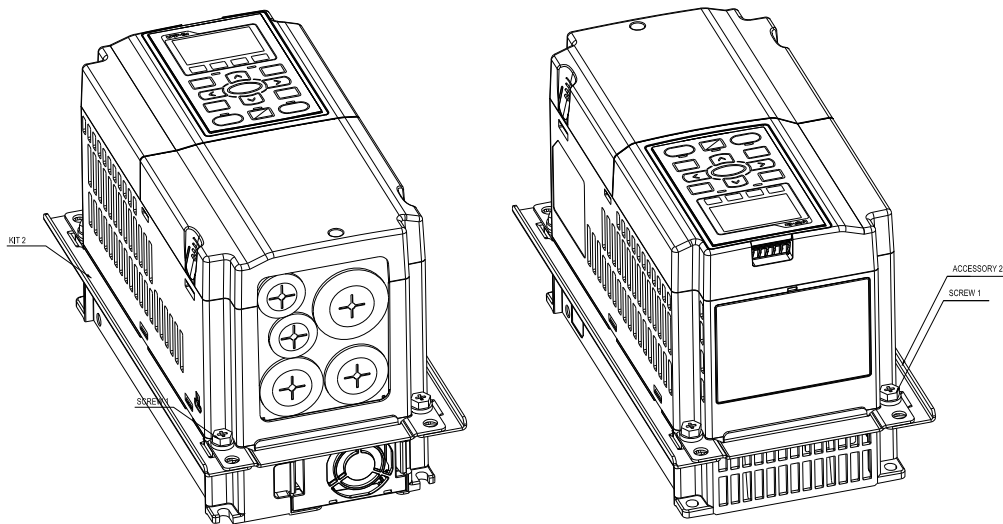

Figure 2
2. Fasten screw\*2(M6) and accessory 2 &3. Screw torque: 25~30kg-cm (21.7~26lb-in). (figure 2)